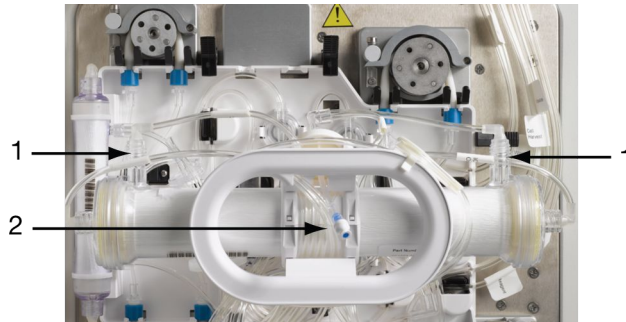

Figure 7-10: Bioreactor in the home position
22. Push the rocker assembly into the rocker arm until it is completely inserted. The bioreactor will be in the home position with the EC inlet and EC outlet ports facing upward and the sample port facing downward, as shown in Figure 7-10.